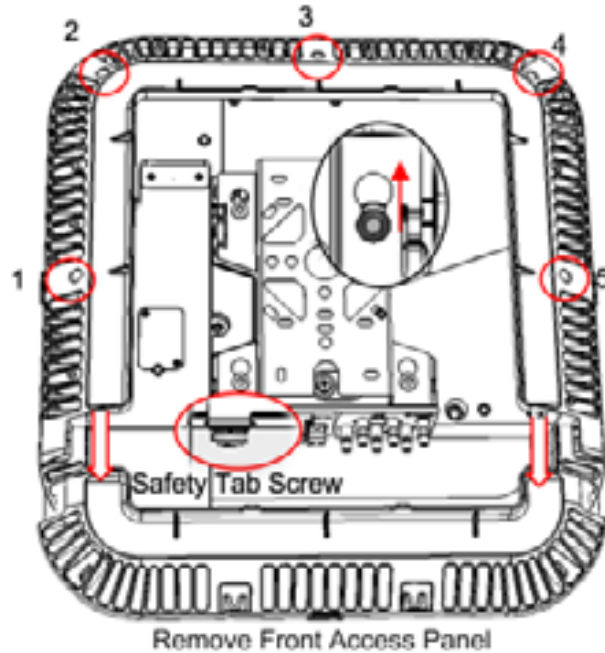

Figure 7-5. Removing RAU Enclosure Cover
1. Remove RAU front panel and then cover by removing the five screws indicated in Figure 7-5